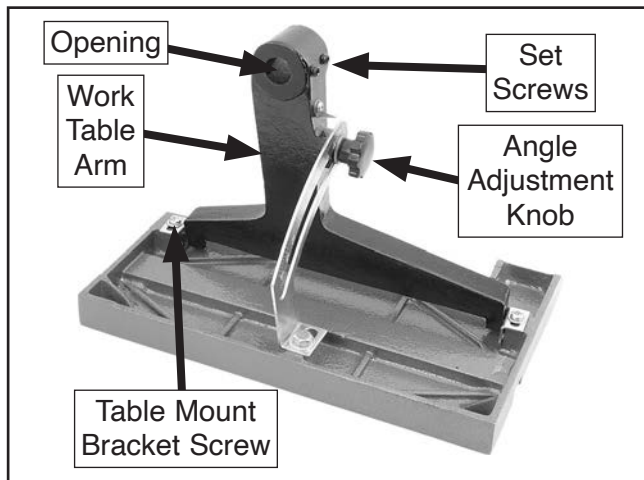

Figure 35. Location of work table installation components.
28. Loosen the (2) set screws on the work table arm so their ends are flush with the inside of the opening, as shown in **Figure 35**.
29. Loosen the angle adjustment knob on the work table (see **Figure 35**), tilt the table to the 0° mark, then tighten the knob.
- If the gap between the work table and the sanding disc is not the same on both sides, loosen one of the table mount bracket screws (see **Figure 35**), adjust the table as needed to even the gap, then tighten the screw.